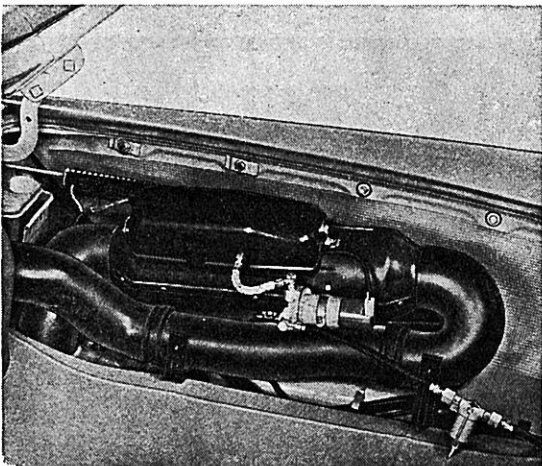

Fig. 16
- 25 – Install air circulation pipe and warm air elbow (page F 4.20/3-1 and Fig. 16).